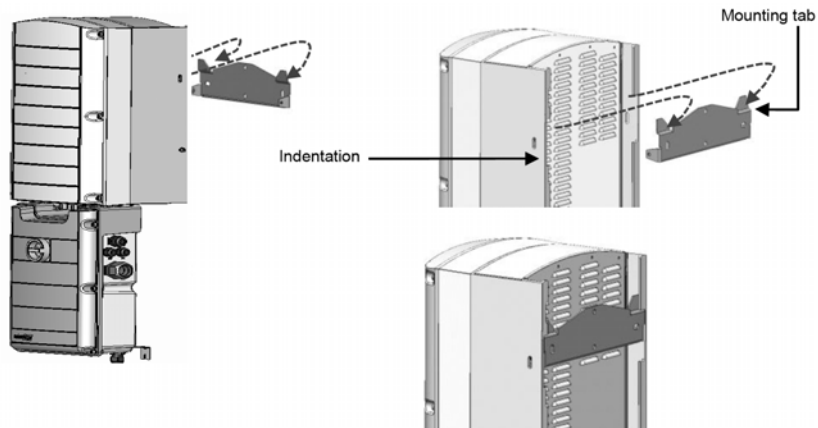

Figure 14: Hanging units
- b. Align the two indentations in the enclosure with the two triangular mounting tabs of the bracket, and lower the unit until it rests on the bracket evenly (see *Figure 14*).
- Align the two indentations in the enclosure with the two triangular mounting tabs of the bracket, and lower the unit until it rests on the bracket evenly (see *Figure 14*).